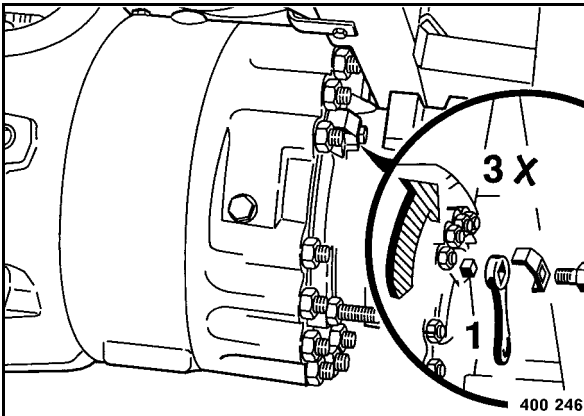

Fig. 112
- To adjust the clearance turn the square 1 (Fig. 112) three revolutions back in clockwise direction.